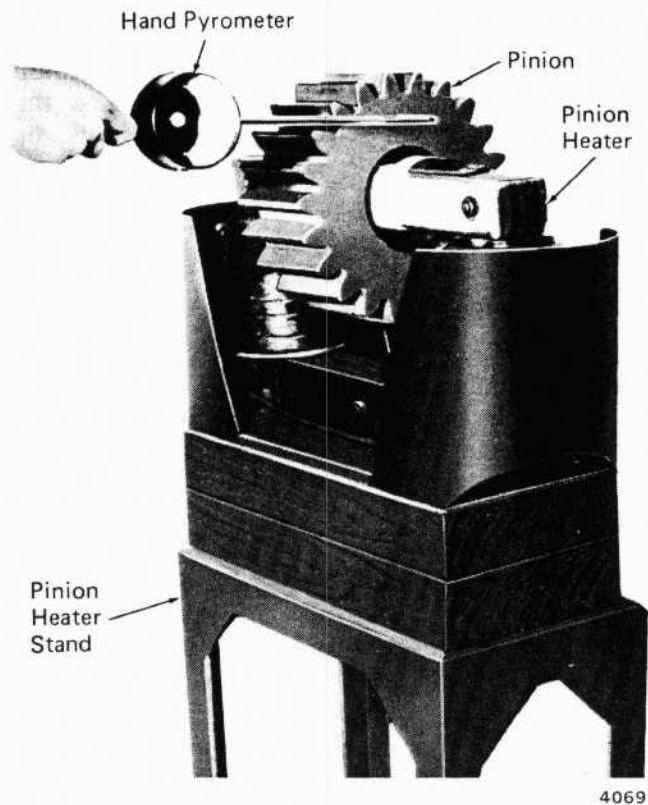

Fig. 31 - Induction Heater
11. When cold mounting variations are within limits, the pinion may be heated with an induction heater, Fig. 31, for final mounting. Heat and mount the pinion as follows: